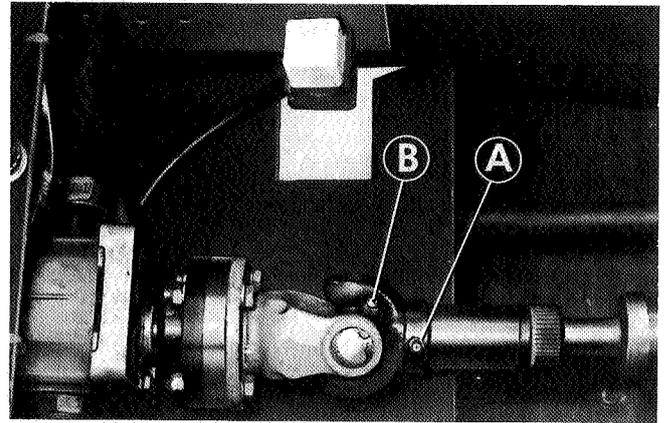

Abb.58
P.T.O. BEARING (B Fig.58)
ZAPFWELLENANTRIEBSLAGER (B Abb.58)
ROULEMENT DE PRISE DE FORCE (B Fig.58)
LAGER VAN KRACHTAFNEMER (B Afb.58)